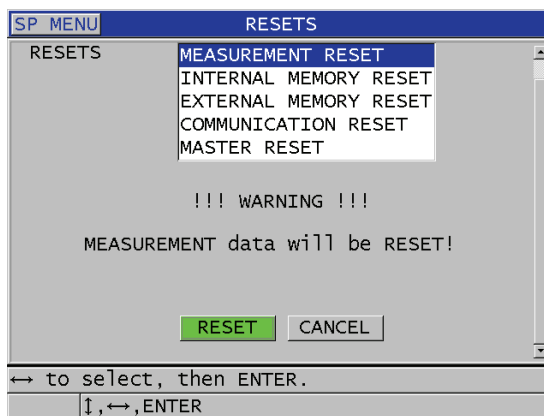

Figure 15-1 Activating a reset function
3. In the **RESETS** screen (see Figure 15-1 on page 259):